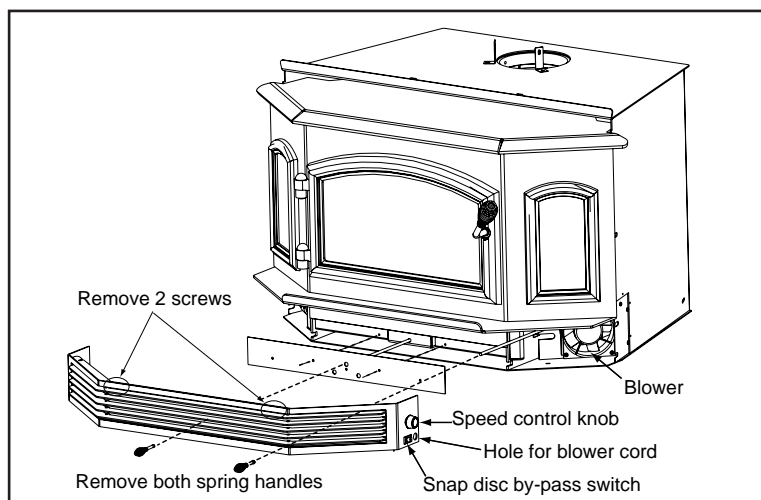

Figure 11.2
2. Remove the grille by removing 2 screws in the center of the grille. **Figure 11.2**
3. Unplug the snap disc by-pass switch and speed control from the wiring harness. **Figure 11.2**
5. Attach the cover to the front of the insert to block room air from entering through the front grille. **Figure 11.2.**